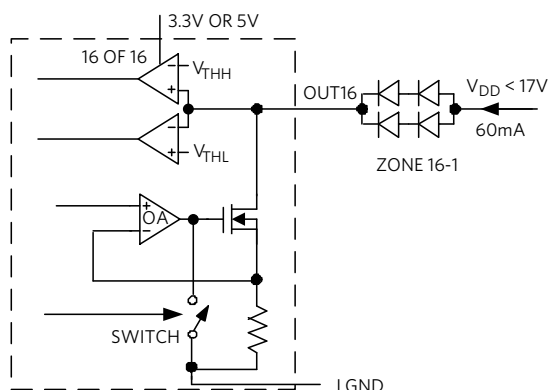

Figure 4. A diagram of an LED driver showing one of 16 channels.
One of 16 channels is shown in Figure 4. The MOSFET/op amp/resistor ensemble is the current sink that powers the 2s2p LED string, which can be dimmed with a switch via the op amp (OA) or shutoff. Two comparators provide overvoltage ( $V_{\text{THH}}$ ) and short-to-ground protection ( $V_{\text{THL}}$ ). The minimum channel output voltage  $V_{\text{OUT}}$  (OUT16 in Figure 4) is 0.8V.